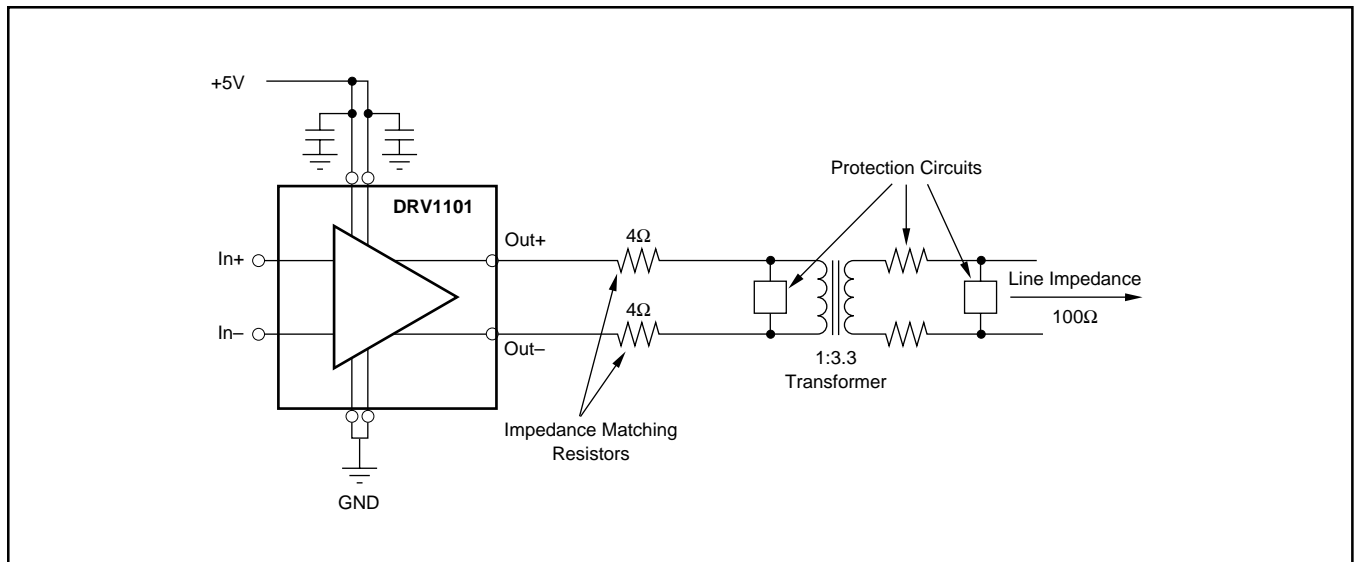

FIGURE 3. Typical Digital Subscriber Line Application.
The DRV1101 is designed for the high power, low distortion, requirements of a twisted pair driver in digital communications applications. These include ADSL (Asymmetrical Digital Subscriber Lines), and RADSL (Rate adaptive ADSL). Figure 3 shows a typical transformer coupled xDSL line driver configuration.
The DRV1101 is recommended as the upstream driver (CPE equipment) for ADSL G.Lite systems. These system require an rms line power of 10dBm with a voltage crest factor of 5.3 (crest factor is the ratio of peak to rms voltage). A voltage crest factor of 5.3 is equivalent to a power crest factor of about 15dB. Therefore, the peak power required at the line for G.Lite is 25dBm. Using the basic circuit shown in Figure 3, DRV1101 will provide this power to the line with very low distortion.
3. The DRV1101 peak output voltage is calculated by the formula:  $V_{PEAK} = (P_{PEAK} \cdot R_L)^{1/2}$  where  $R_L$  is the load impedance that the DRV1101 must drive. For ADSL Lite, using the circuit shown in Figure 3,  $V_{PEAK} = (P_{PEAK} \cdot R_L)^{1/2} = (.631W \times 17\Omega)^{1/2} = 3.3V$ . The peak-to-peak voltage out of the DRV1101 is  $2 \times 3.3V = 6.6V$ .
4. The transformer turns ratio can be changed to keep the required output voltage and current within the range of the DRV1101. The line impedance ( $R_{LINE}$ ) is 100Ω for ADSL. The impedance that is reflected to the DRV1101 side of the transformer is  $R_{LINE}/(\text{turns ratio})^2$ . For best power transfer, the total of the impedance matching resistors should equal the reflected impedance. Thus, for the circuit shown in Figure 3, the reflected impedance is  $100\Omega/(3.4)^2 = 8.6\Omega$ . With two impedance matching resistors of 4Ω each and about 0.5Ω transformer resistance, the total load impedance is about  $(8.6\Omega + 4\Omega + 4\Omega + 0.5\Omega) = 17\Omega$ .
Figure 3 also shows overvoltage and short circuit protection elements that are commonly included in DSL applications. Overvoltage suppressors include diodes or MOV's. The outputs of the DRV1101 can be momentarily shorted to ground or to the supply without damage. The outputs are not, however, designed for a continuous short to ground or the supply.